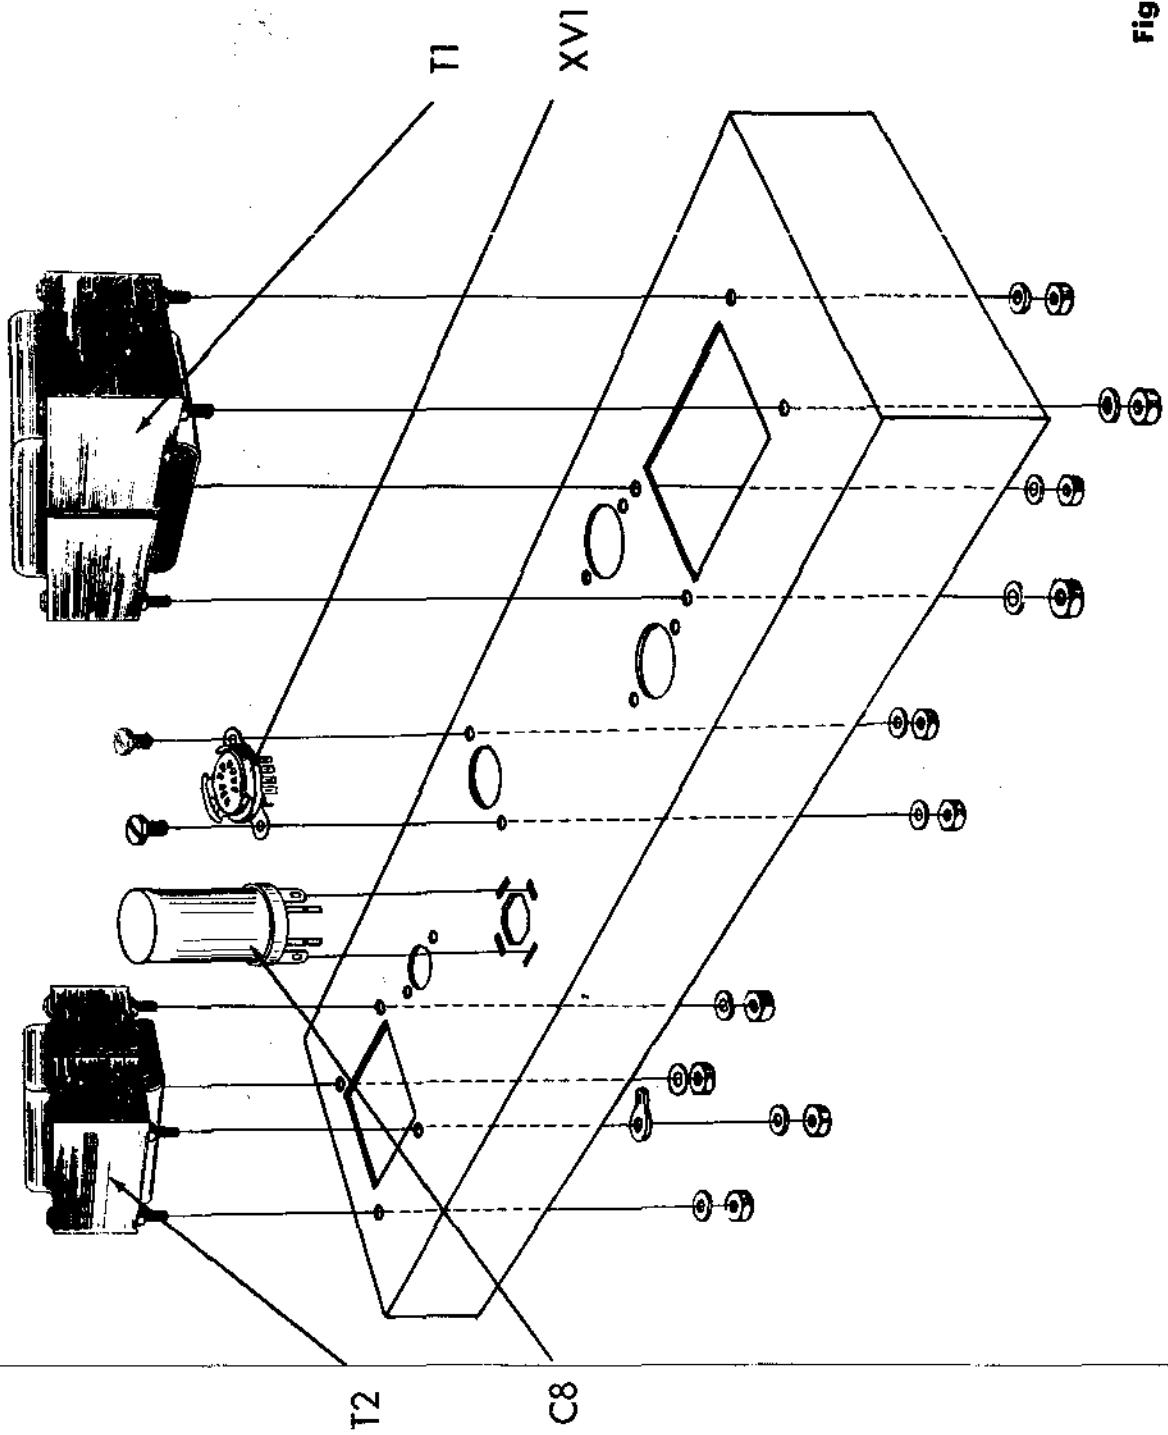
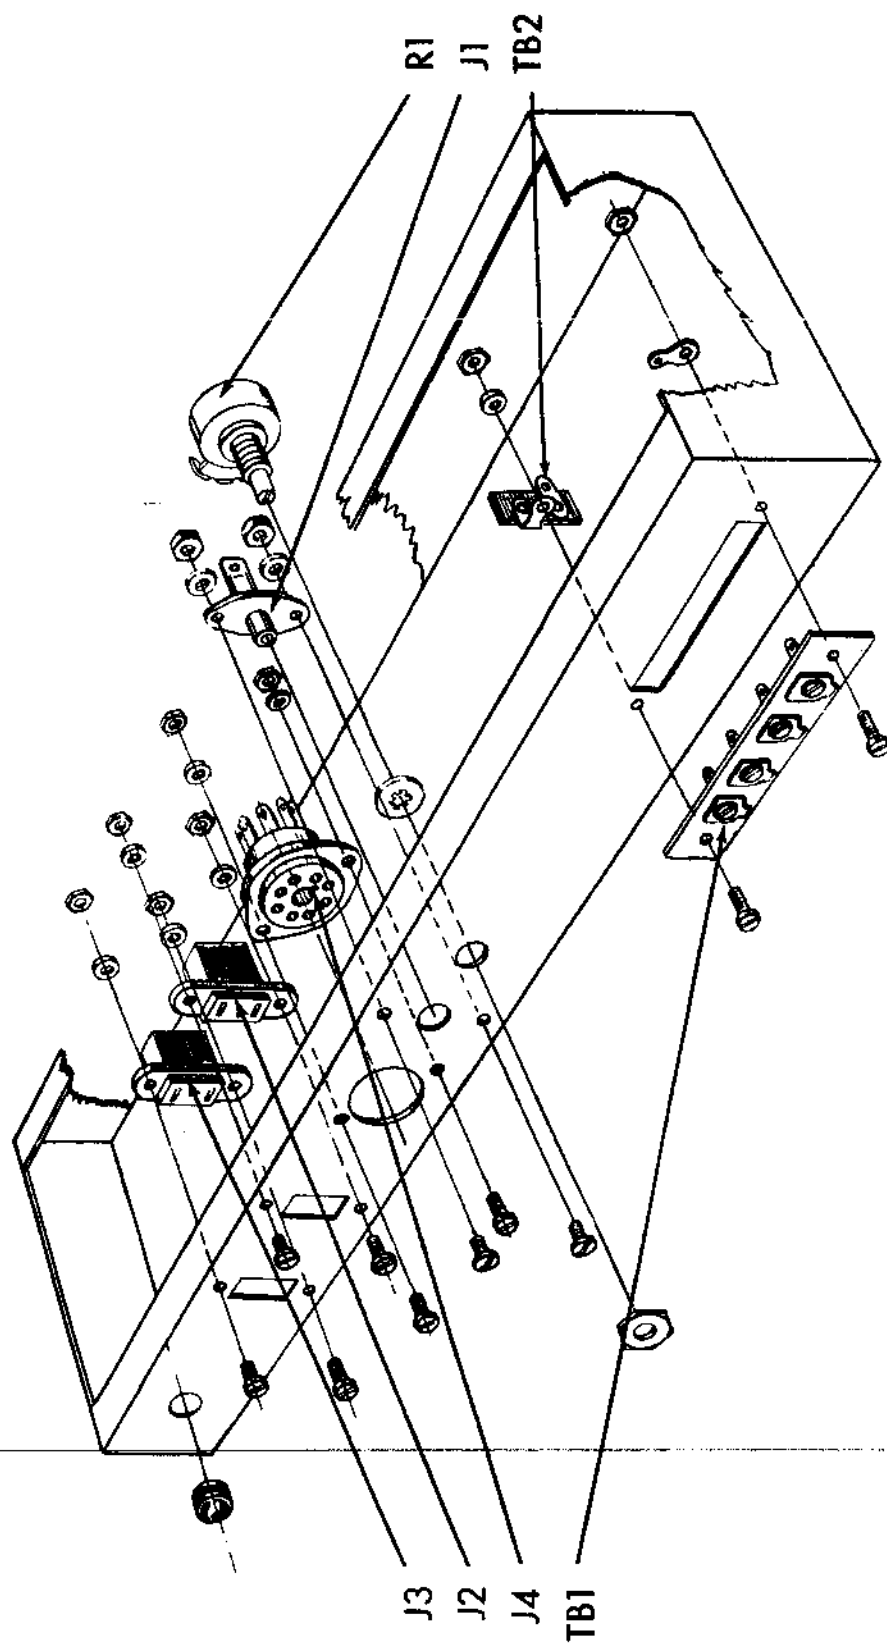
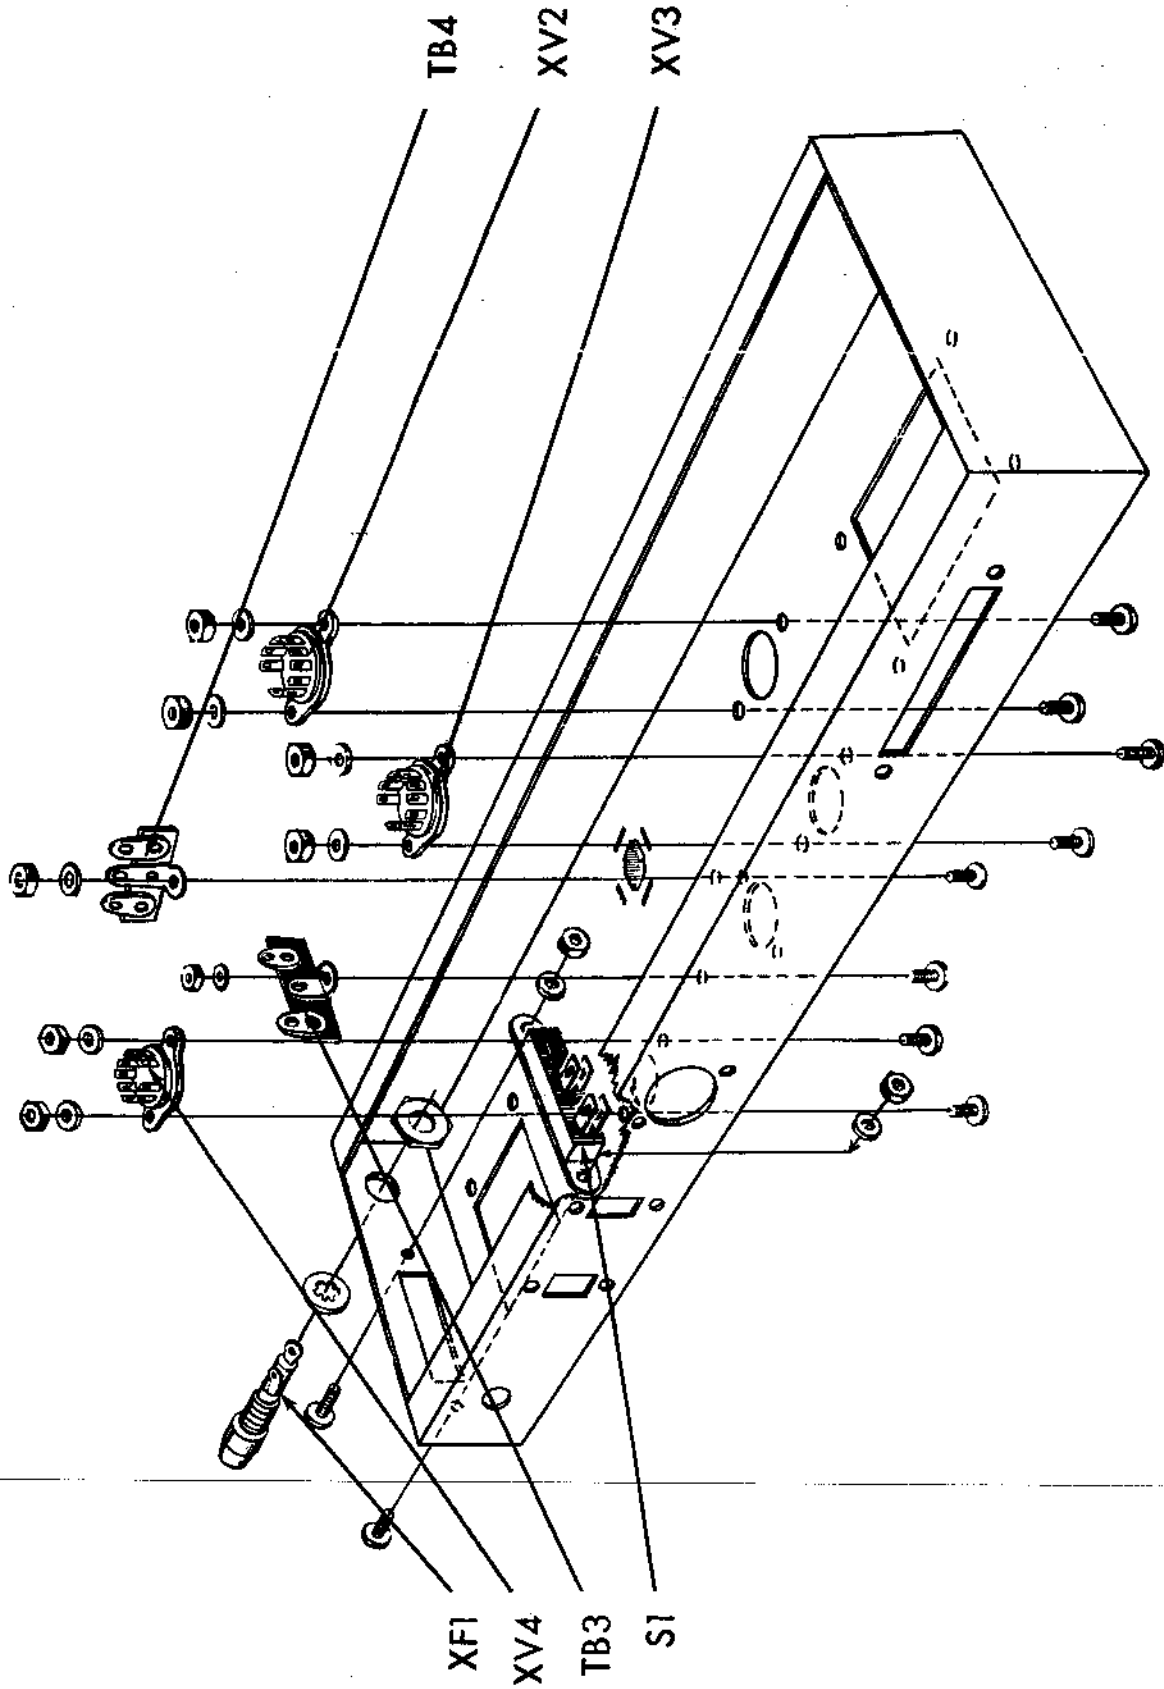
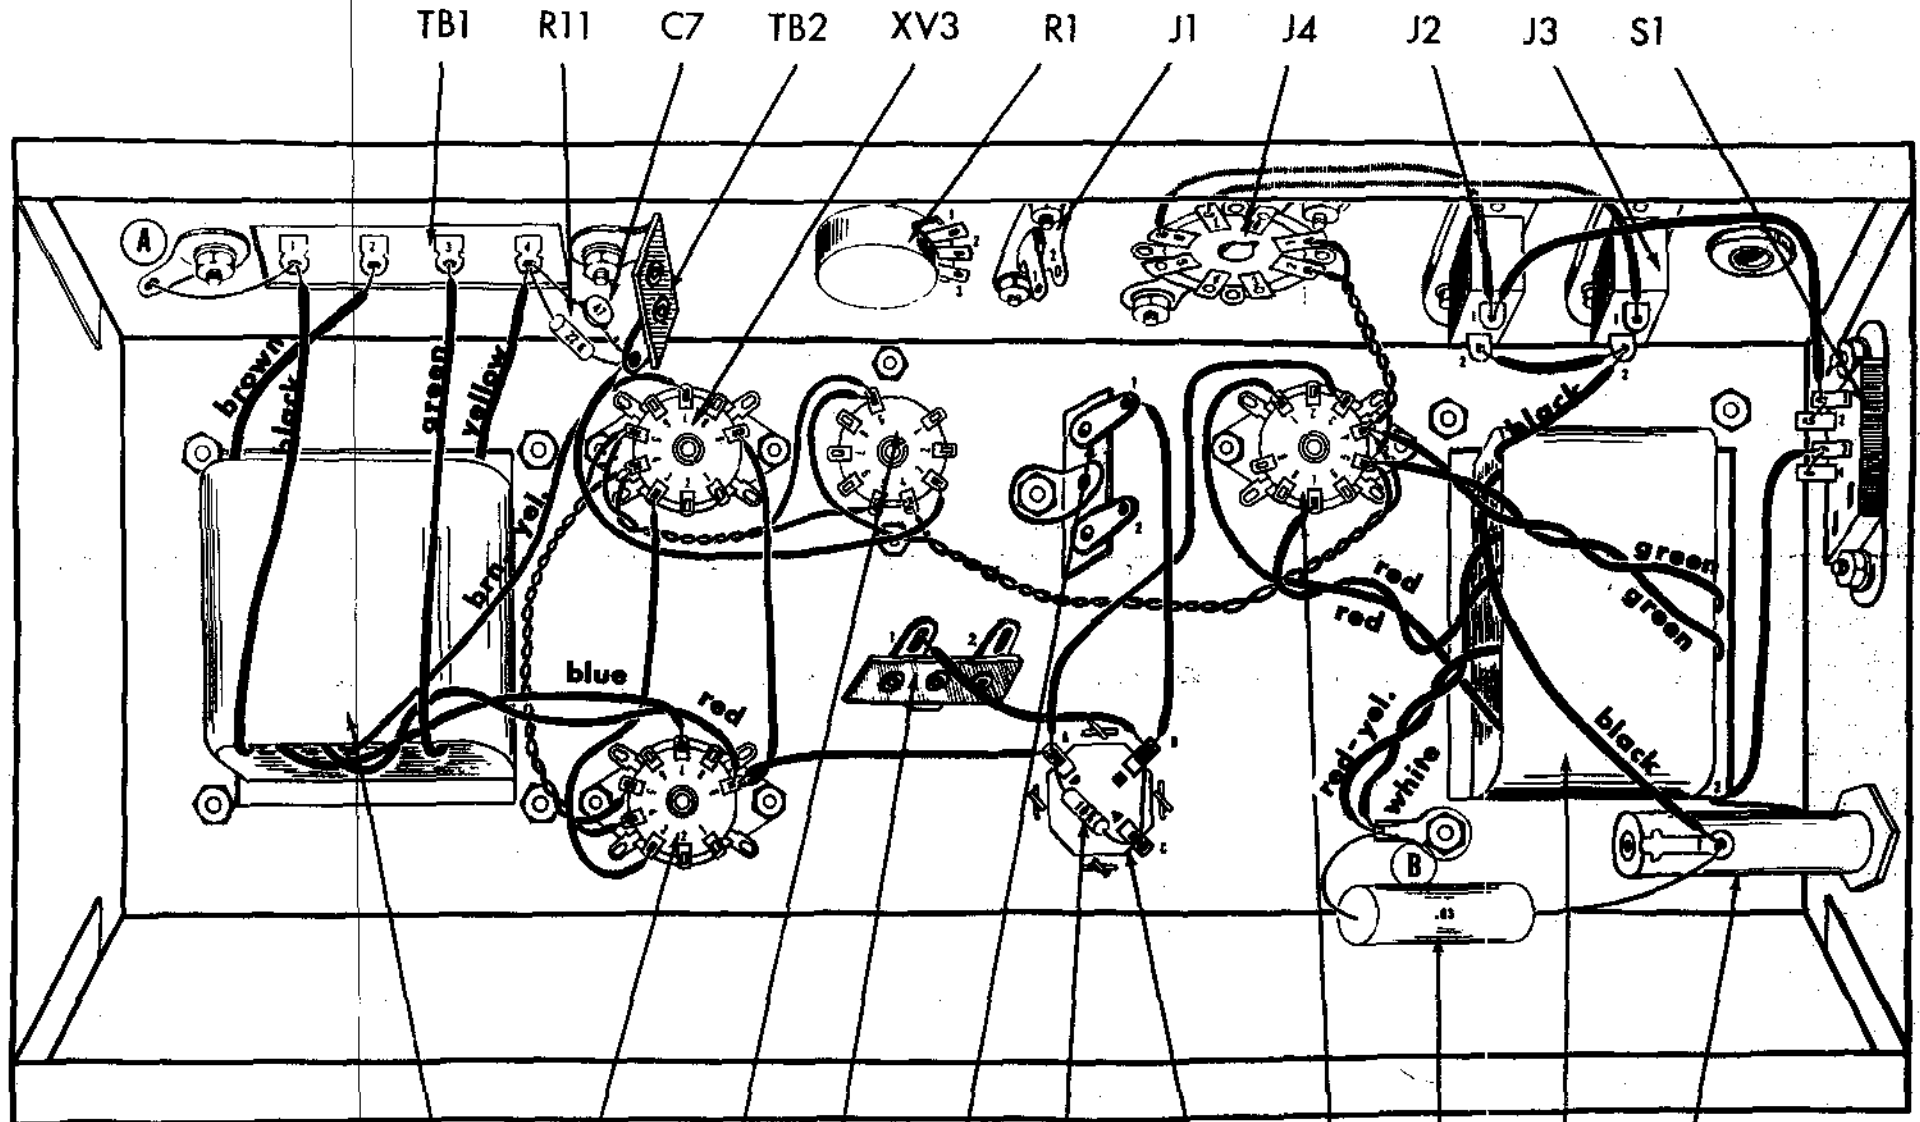

Fig. 1
Fig. 2
Fig. 3
Fig. 4
1. () Fig. 1. On the power transformer T2, 30019, cut both red leads to 3", the red-yellow and white leads to 2 1/2" and the two green leads to 3 1/2". Do not cut the remaining leads. Mount the power transformer as shown, with the green leads closest to the side of the chassis (Fig. 4 & 5). Use four #8 lockwashers and four #8-32 hex nuts. Under one of the lockwashers, mount a #8 ground lug as shown in Fig. 4.
2. () Fig. 1. On the output transformer T1, 32005, cut the green lead to 3 1/2", the yellow lead to 1 1/2" and the blue lead to 4 1/2". Do not cut the remaining leads. Mount the output transformer as shown with the brown and the yellow leads closest to the rectangular hole in the side of the chassis (Fig. 4 & 5). Use four #8 lockwashers and four #8-32 hex nuts.
3. () Fig. 1. Mount the 9 pin miniature tube socket with shield support, XV1, as shown. Note direction in Fig. 4. Use two #4-40 screws, two #4 lockwashers and two #4-40 hex nuts.
4. () Fig. 1. Mount electrolytic can capacitor, C8, as shown. Note half-moon, square and triangle near lugs to determine direction of mounting (Fig. 4). Insert the mounting tabs into the slots in the chassis and twist the tabs somewhat less than a quarter turn. DO NOT twist the tabs excessively or they will shear off. Solder the tab without a hole to the chassis at its slot.
1. () Fig. 2. Mount the four screw terminal board TB1, from the outside of the chassis as shown. Use two #6-32 screws and two #6-32 hex nut. Under one hex nut, mount a #6 ground lug. Under the second hex nut, mount a one post right terminal strip, TB2, and a #6 lockwasher.
2. () Fig. 2. Mount the potentiometer T1, as shown. Use one 3/8 lockwasher and one 3/8 hex nut.
3. () Fig. 2. Mount the input jack J1, as shown (Fig. 4). Use two #6-32 screws, two #6 lockwashers and two #6-32 hex nuts.
4. () Fig. 2. Mount the octal socket, J4, as shown. Note direction of key in Fig. 4. Use two #6-32 screws, two #6 lockwashers and two #6 hex nuts.
5. () Fig. 2. Mount convenience outlets J2 and J3, as shown. Use two #6-32 screws, two #6 lockwashers and two #6-32 hex nuts on each.
6. () Fig. 2. Push a 3/8" rubber grommet through the remaining hole at the rear of the chassis near convenience outlet J3.
1. () Fig. 3. On the side of the chassis mount the slide switch S1, as shown. (Fig. 4). Use two #4-40 screws, two #4 lockwashers and two #4 hex nuts.
2. () Fig. 3. Mount fuseholder XF1 as shown. Use large rubber washer outside the chassis. Tighten to chassis with hex nut supplied. Do not tighten too much or holder will crack.
3. () Fig. 3. Mount the tube sockets XV2, XV3, and XV4 as shown (Fig. 4). Use two #4-40 screws, two #4 lockwashers and two #4-40 hex nuts on each.
4. () Fig. 3. Mount the two post terminal board TB3, and the two post terminal board, TB4 as shown. Use one #6-32 screw, one #6 lockwasher and one #6-32 hex nut on each.
1. (✓) Fig. 4. Connect a 1" piece of bare wire from TB1-1 (C) to ground lug "A" (S1).
2. (✓) Fig. 4. From output transformer T1, connect the black lead to TB1-1 (S2), the brown lead to TB1-2 (S1), the yellow lead to TB1-4 (C) and the brown-yellow lead to XV3-7 (S1). Twist the blue and red leads together. Connect the red lead to XV2-9 (C) and the blue lead to XV2-7 (S1). Connect the green lead to TB1-3 (S1).
3. (✓) Fig. 4. Cut both leads on a 22K Ω (red, red, orange, gold) 5% resistor, R11, to 1/2". Connect from TB1-4 (C) to TB2 (C).
4. (✓) Fig. 4. Cut both leads on a 47 mmf disc capacitor, C7, to 3/4". Connect from TB1-4 (S3) to TB2 (C).
5. (✓) Fig. 4. Connect one end of a 3" piece of yellow wire to XV2-4 (S1) and one end of a 3" piece of brown wire to XV2-5 (S1). Twist the two leads together and run along the chassis as shown. Connect the other end of the yellow wire to XV3-4 (C) and the other end of the brown wire to XV3-5 (C).
6. (✓) Fig. 4. Connect one end of a 3" piece of yellow wire to XV3-4 (S2) and one end of a 3 1/2" piece of brown wire to XV3-5 (S2). Twist the two leads together and run along the chassis as shown. Connect the other end of the brown wire to XV1-9 (C) and the other end of the yellow wire to XV1-5 (C).
7. (✓) Fig. 4. Connect a 1/2" piece of bare wire from XV1-5 (S2) to XV1-4 (C).
8. (✓) Fig. 4. Connect one end of a 5 1/2" piece of brown wire to XV1-9 (S2) and one end of a 5" piece of yellow wire to XV1-4 (S2). Twist the two leads together and run along the chassis as shown. Connect the other end of the brown wire to XV4-5 (C) and the other end of the yellow wire to XV4-4 (C).
9. (✓) Fig. 4. From the power transformer T2, twist the two green leads together. Connect one lead to XV4-4 (C) and the second green lead to XV4-5 (C).
10. (✓) Fig. 4. Connect one end of a 2" piece of brown wire to XV4-5 (S3) and one end of a 2" piece of yellow wire to XV4-4 (S3). Twist the leads together and connect to the other end of the brown wire to J4-2 (S1) and the other end of the yellow wire to J4-1 (S1).
11. (✓) Fig. 4. From the power transformer T2, twist the two red leads together. Connect the shorter red lead to XV4-7 (S1) and the longer red lead to XV4-1 (S1).
12. (✓) Fig. 4. Connect a 1 1/2" piece of black wire from J2-2 (S1) to J3-2 (C).
13. (✓) Fig. 4. Connect a 3/4" piece of bare wire from S1-1 (C) to S1-2 (S1).
14. (✓) Fig. 4. Connect a 3/4" piece of bare wire from S1-3 (C) to S1-4 (S1).
15. (✓) Fig. 4. Connect a 2" piece of black wire from S1-3 (S2) to XF1-2 (S1).
16. (✓) Fig. 4. Connect a 3 1/2" piece of black wire from J2-1 (C) to J4-6 (S1).